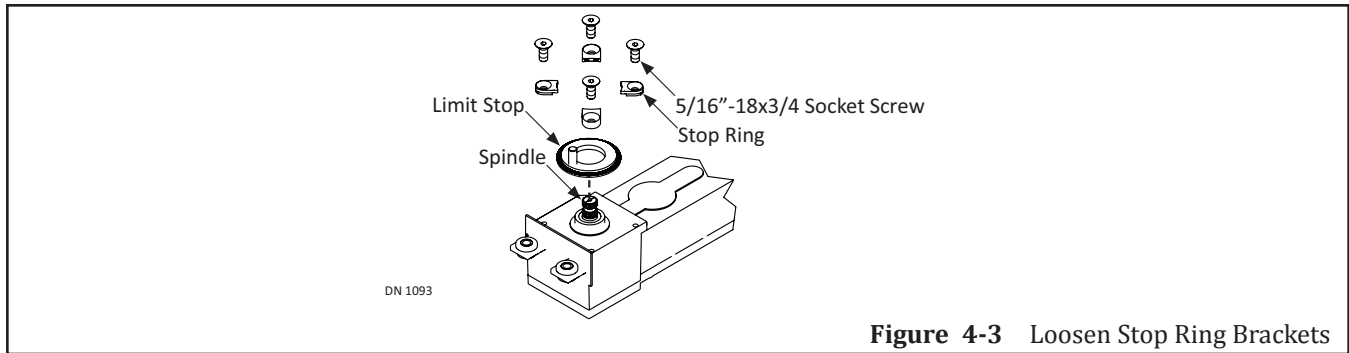

Figure 4-3 Loosen Stop Ring Brackets
3. Slide the Limit Stop onto the Spindle. Please see Figure 4-3.
4. Secure (4) Ring Stops onto the Limit Stop with 5/16-18 Socket Head screws. Do not fully tighten at this time.